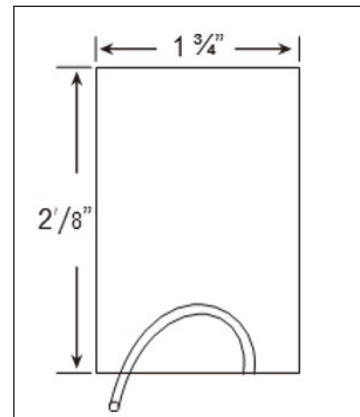

Figure 1: Installation Hole
3. Cut a 2 7/8" by 1 3/4" hole in the wall. See Figure 1.